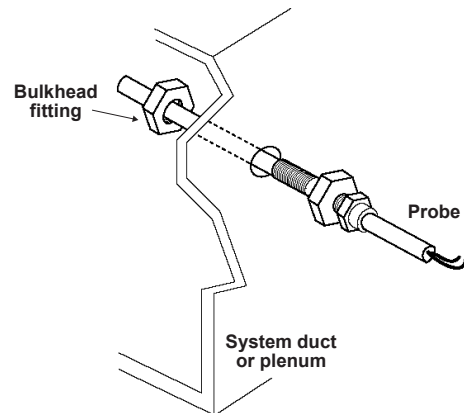

Figure 2 - Installing the TE-701-C or TE-701-D Sensor
- Make the wiring connections. Refer to **Figure 2**.